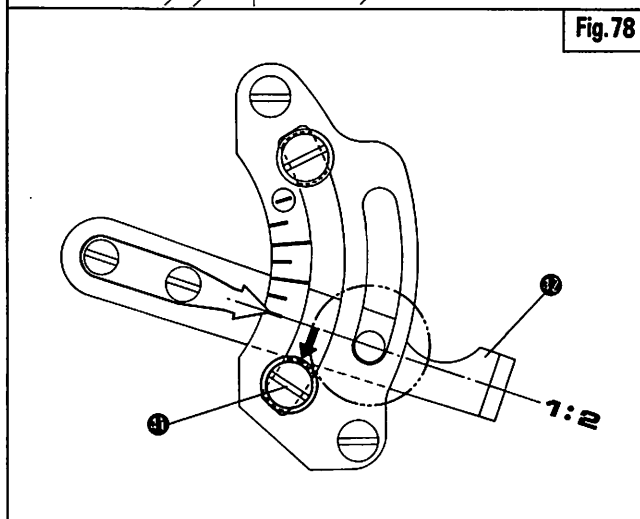

Fig.78
Refer to Fig.78. Loosen Screw ① and widen the moving range of Lever ②.